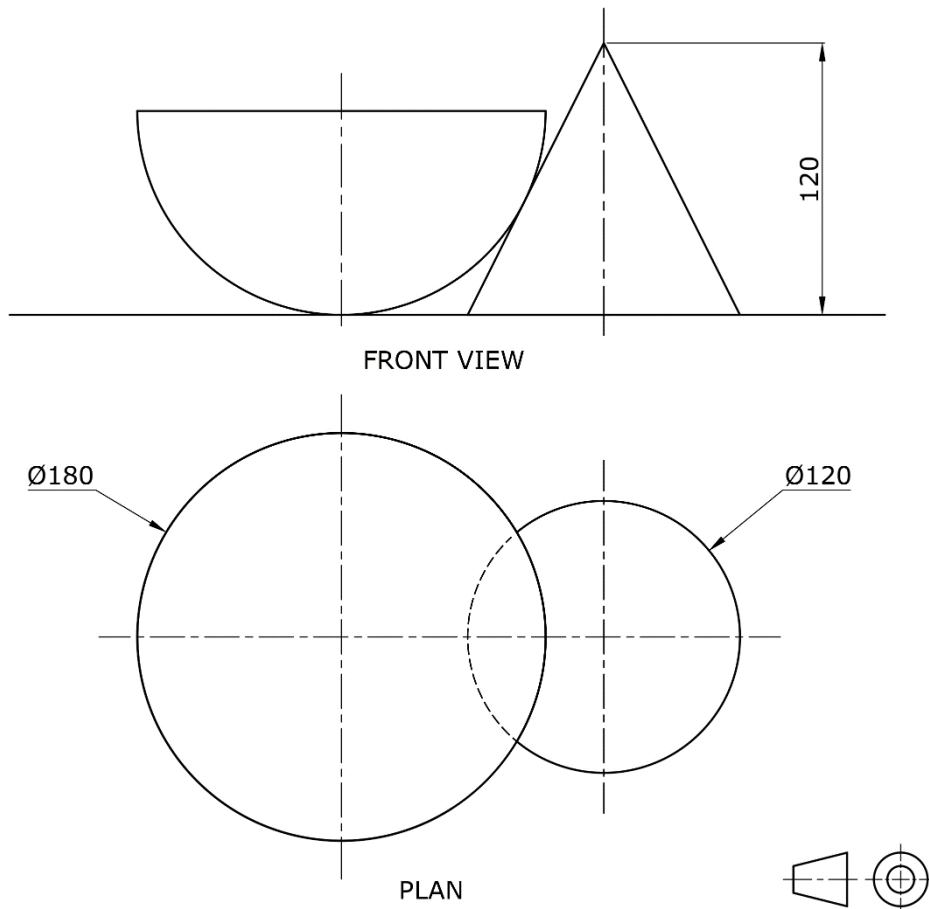

Figure 3b
a) Copy, full size, the front view and plan of the cone and place the hemi-sphere resting on the same horizontal plane in mutual contact with the slant height of the cone as shown in Figure 3b. (2)